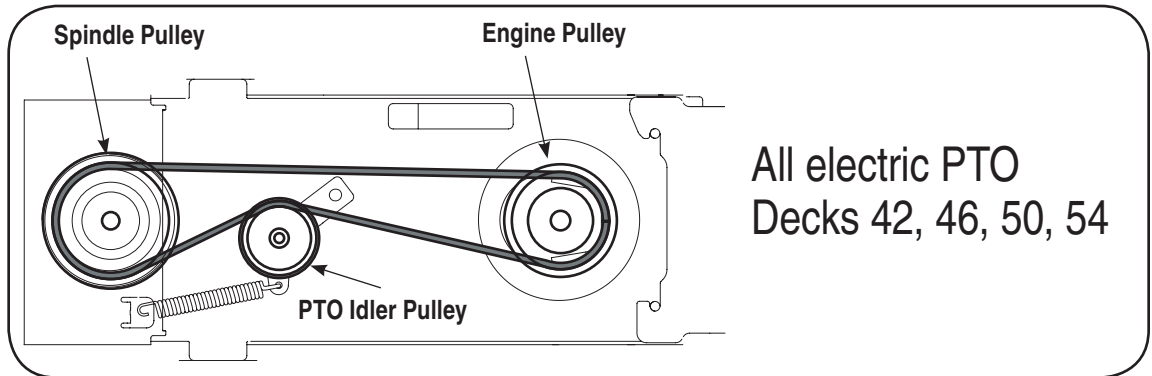

Figure 8-1
1. Attach and route upper drive belt around spindle pulley and idler pulley found on undercarriage, electric PTO clutch and PTO idler pulley as illustrated in Figure 8-1. Make sure that the belt is routed to the **INSIDE** of the belt keeper on the undercarriage idler pulley and the remaining keeper pins found around the spindle pulley.